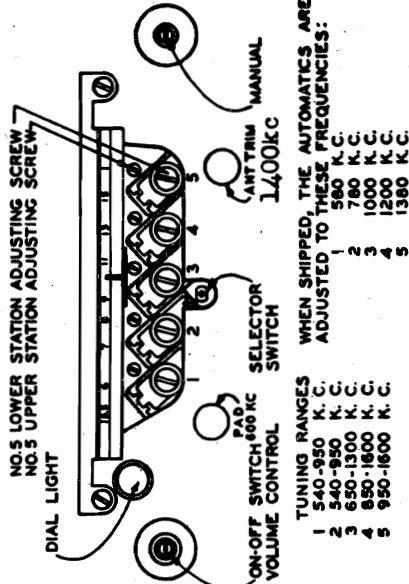

FIG. 5
8. The variable condenser should then be rocked slightly while adjusting the oscillator padder condenser C-9. (See Fig. 5).
2. Remove the plastic escutcheon over the tuning control by first pulling off the three (3) knobs and removing the lock nuts on the tuning and volume control shafts. With the escutcheon removed, the automatic adjusting screws become accessible as shown in Fig. 5. The adjustments are easily made by means of a small screw driver.
3. Select five stations within the frequency range shown under each set of adjustment screws in Fig. 5.